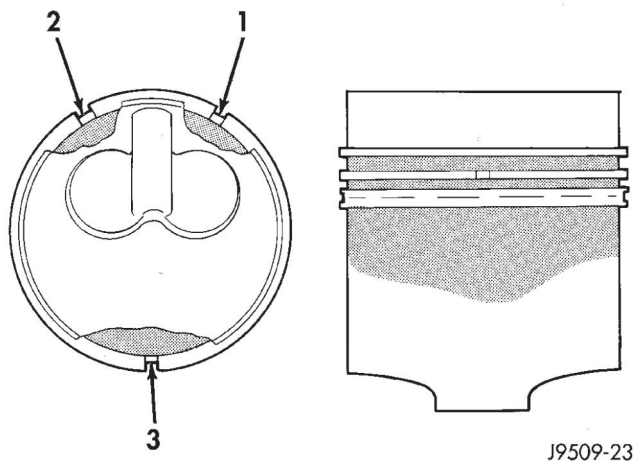

Fig. 80 Piston Ring Gap Location
Ring gaps must be positioned, before inserting piston into the liners, as follows (Fig. 80).
(1) Before installing pistons, and connecting rod assemblies into the bore, be sure that compression ring gaps are staggered so that neither is in line with oil ring rail gap (Fig. 80).
(2) Before installing the ring compressor, make sure the oil ring expander ends are butted and the rail gaps located as shown in (Fig. 80).